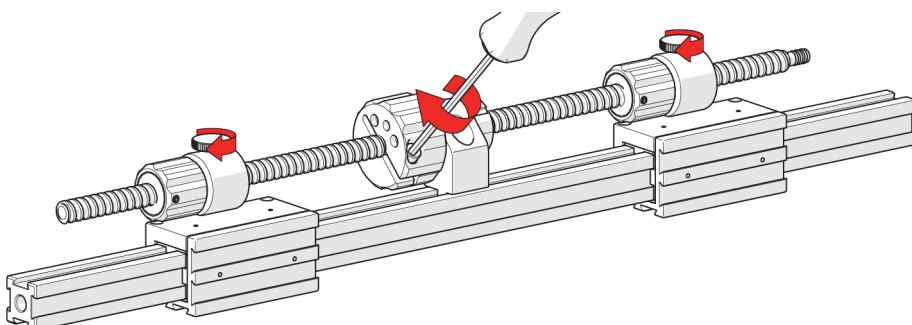

Figure 2-55 Tighten leadscrew
5. Tighten the main knob's hexagonal screw (see Figure 2-55 on page 74).